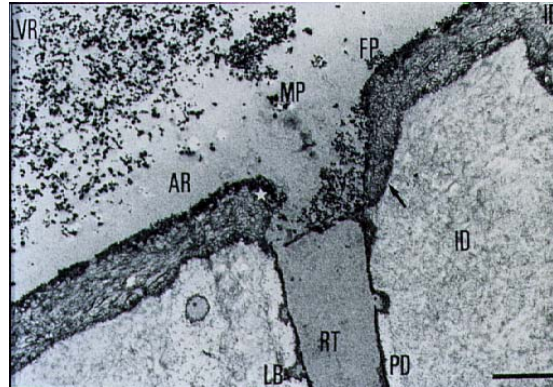

Figure 1
* Regardless of the type dentinal adhesive used, the primary mechanism for dentin adhesion is still establishment of the hybrid layer. As seen below in the elegant TEM from Dr. Bart Van Meerbeek, the hybrid layer is a resin-reinforced layer that “connects” the underlying intertubular dentin to the adhesive resin (Fig. 1).